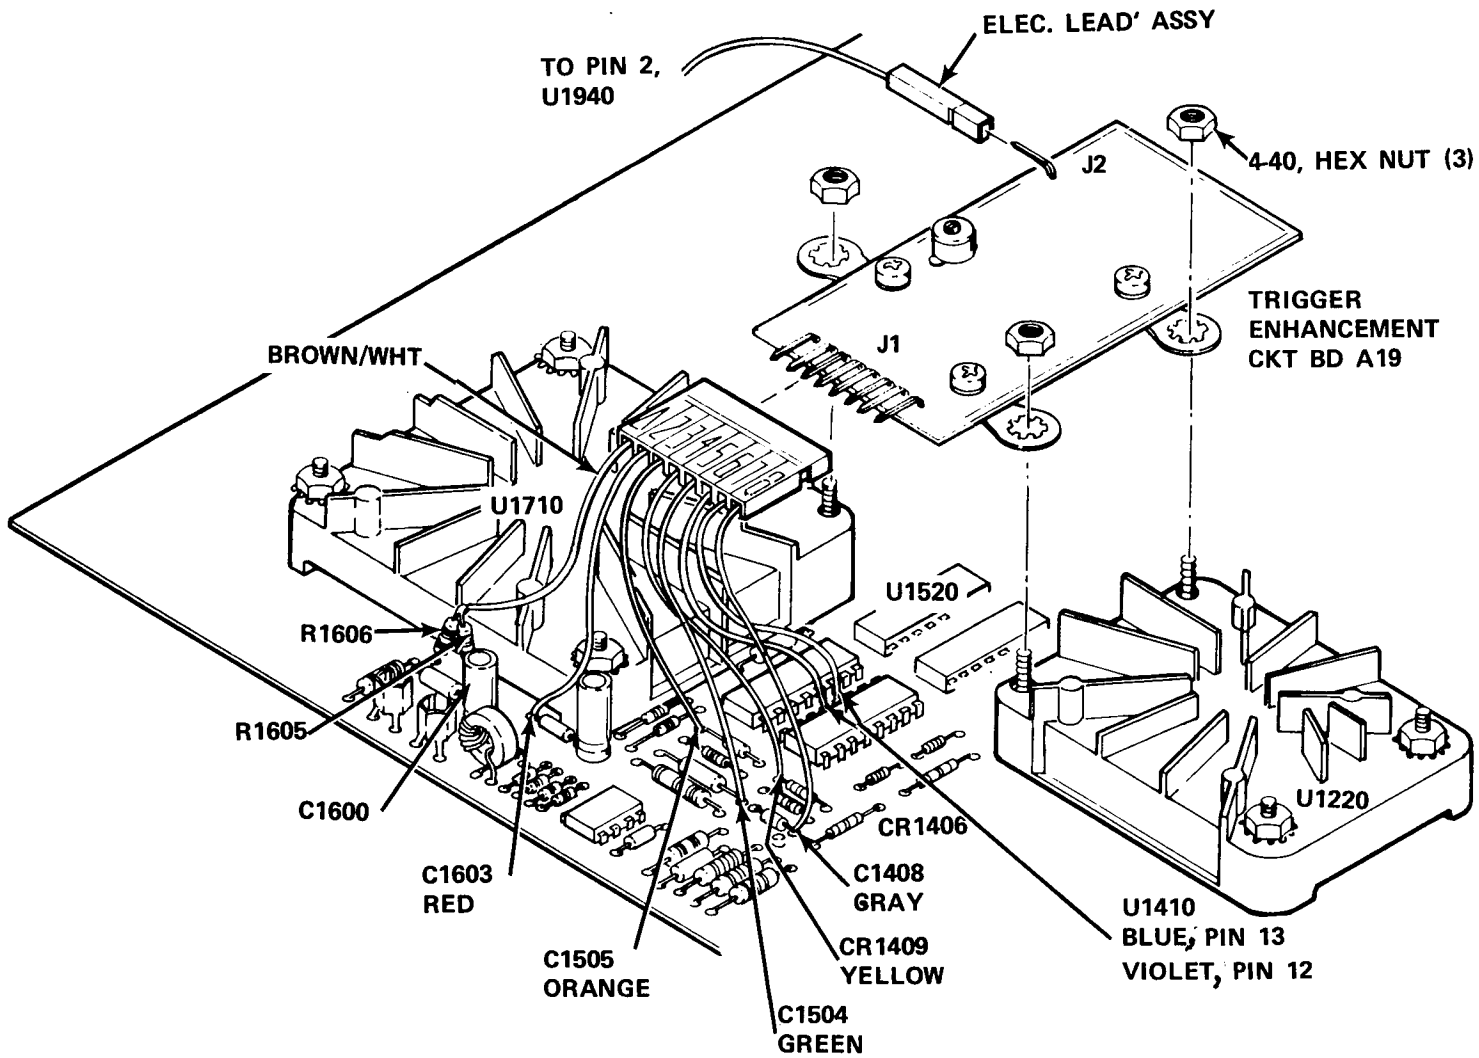

Figure 14. - Trigger Enhancement circuit board A19.
() 31. Solder the 8 conductor ribbon cable wires to the following locations: Refer to Figure 14, for the following sub-steps.
() 37. Install the Trigger Enhancement circuit board A19, pn 671-0828-00, that is provided in this kit, on the U1220 and U1710 mounting screws. Secure the circuit board to the mounting screws using the three (3) 4-40 plain nuts that is provided in this kit, refer to figure 14.